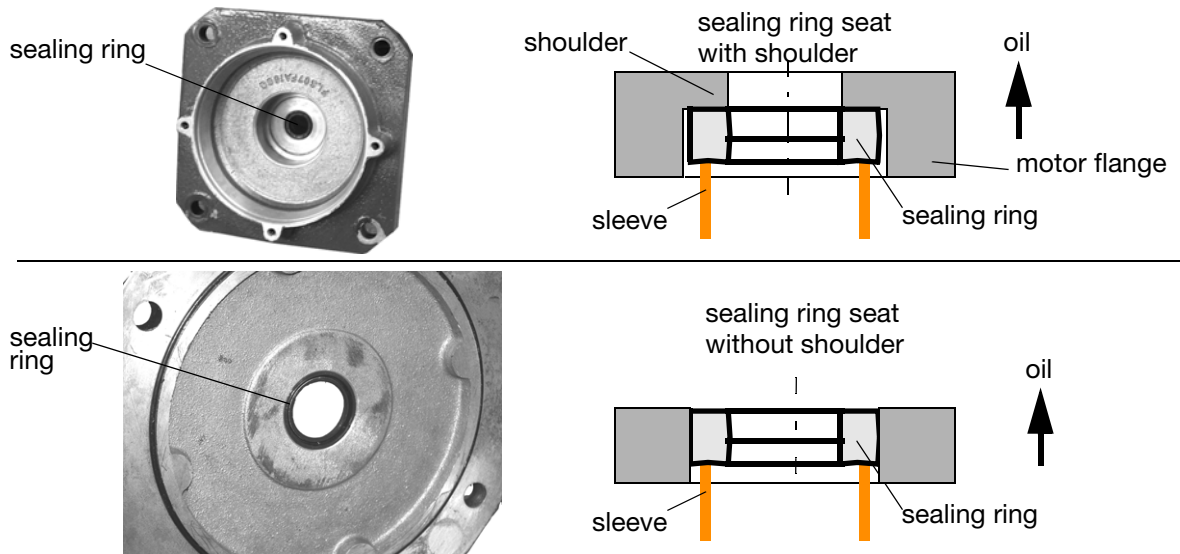

Fig. 25: Inside of the motor flange (exemplary depiction)
- grease the new sealing ring and press it into the flange as shown in fig. 25; make sure that the „open“ part of the sealing ring points towards the oil (when the motor is mounted to the actuator); see fig. 25.